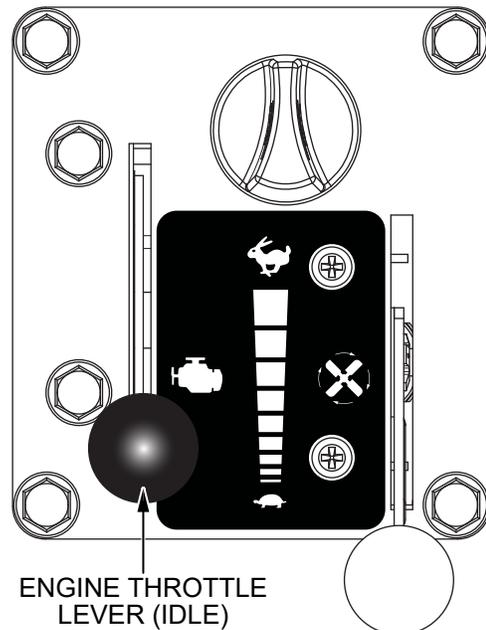

Figure 21. Engine Throttle Lever (Idle)
3. Place the **engine throttle lever** in the **IDLE** (turtle) position. See Figure 21.